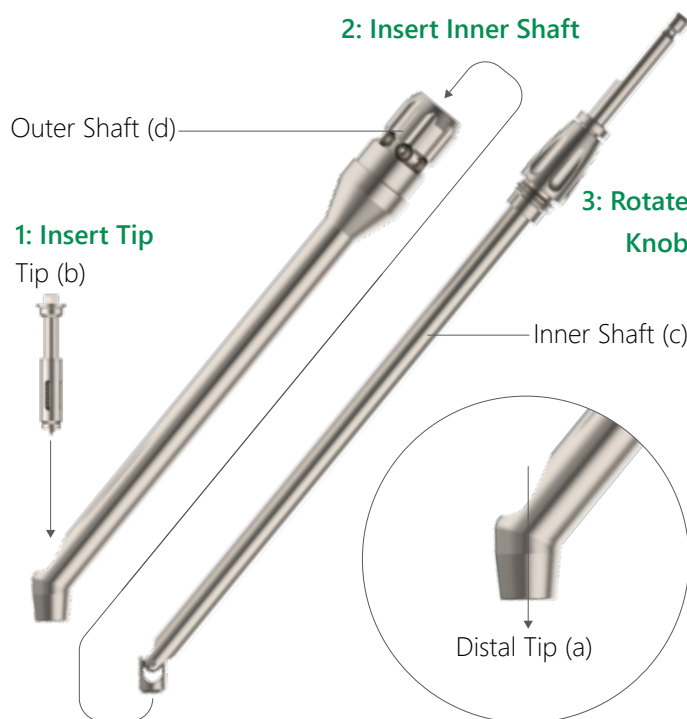

Figure 8b
- Insert the Inner Shaft (c) through the top of the Outer Shaft (d) and turn the proximal knob clockwise to tighten (Figure 8b).